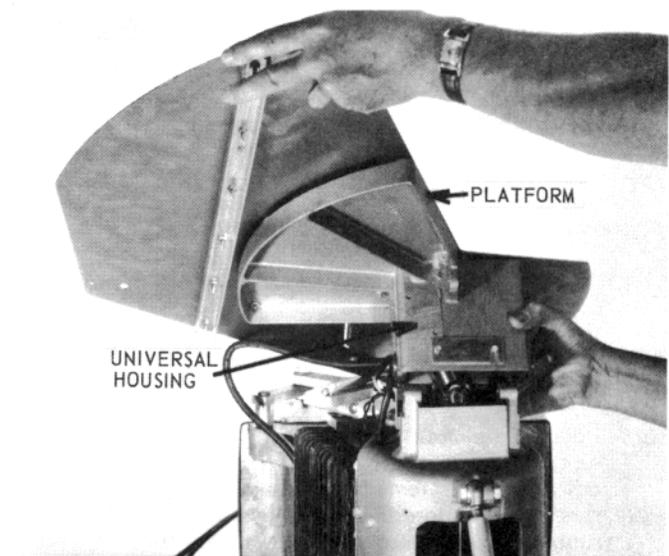

Figure 32 – Platform and Universal Housing
- 1.2.9 Lift and remove the platform and universal housing (see Figure 32).